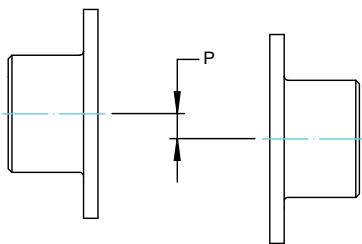

Figure 6 - Parallel Offset Misalignment.
- 8.4. The “Parallel Misalignment” value (P) is the offset between the centers of the hubs, as shown in Figure 6.